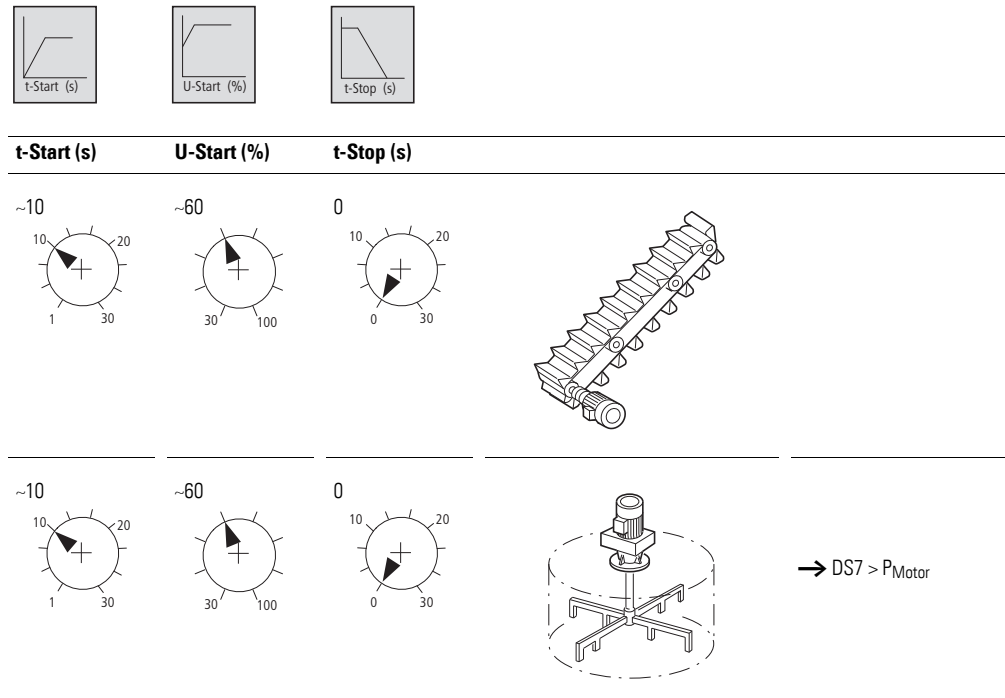

Figure 55: Recommended settings per application
- ▶ 2. Optimize **t-Start**, set **t-Start** as recommended in the previous setting (Figure 55) and allow 6 minutes for cooling.